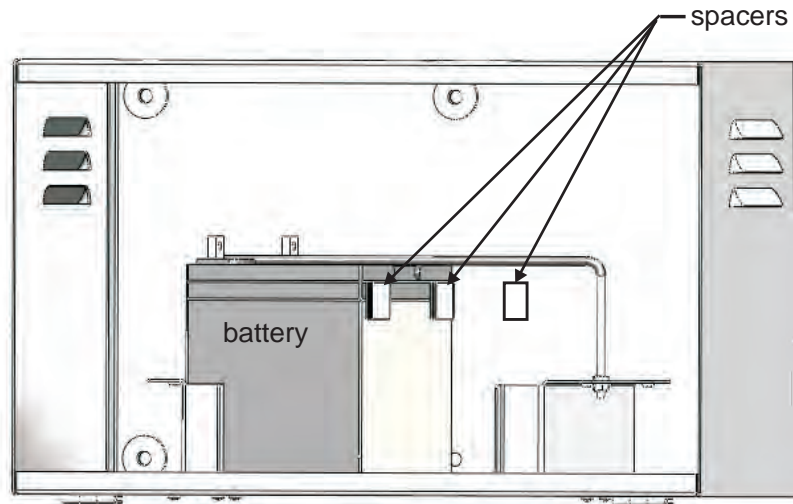

Figure J-7. Recommended Velcro Spacer Locations
9. (Optional) If the fit of the batteries inside the brackets is loose, remove one bracket and apply velcro spacers as required either between the two batteries and/or between batteries and the back of the cabinet (as shown in Figure J-7), then replace the bracket.